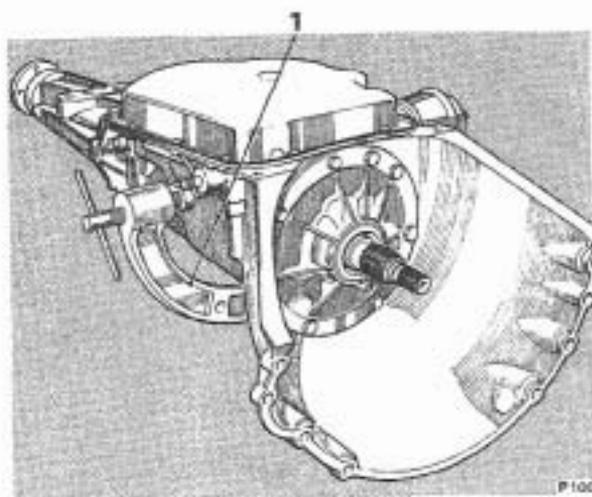

FIG. T168 TRANSMISSION IN HOLDING FIXTURE
47. If overhaul work is to be carried out, fit the transmission into the holding fixture RH 7956 (J-8763-20) as shown in Figure T168.